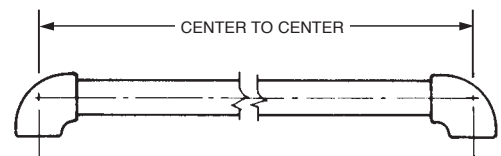

FIGURE 4-126
5. Pipe lengths are measured from center of fitting to center of fitting. See Figure 4-126.